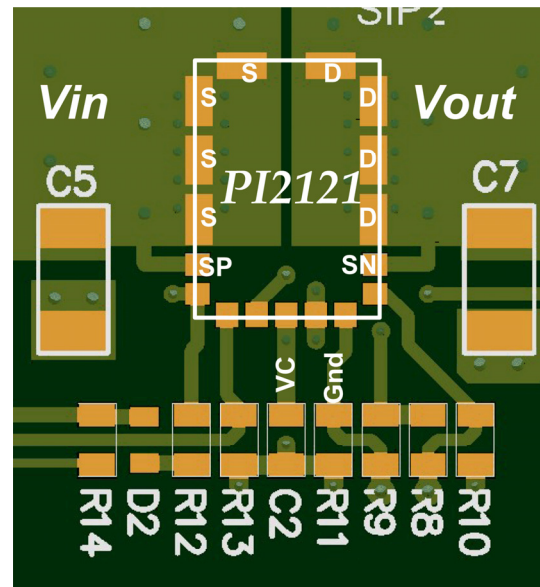

Figure 24: PI2121 layout recommendation
Use the following general guidelines when designing printed circuit boards. An example of the typical land pattern for the PI2121 is shown in Figure 24:
- Connect the SP pin to the S pins and connect the SN pin to D pins as shown in Figure 24.
- The VC bypass capacitor should be located as close as possible to the VC and GND pins. Place the PI2121 and bypass capacitor on the same layer of the board. The VC pin and C_{VC} (shown as C2 in Figure 24).
will produce a high voltage across the MOSFET. If it is not possible to connect the power source and S pins with a very short trace or common point, connect a capacitor (shown as C5 in figure 24), recommended value 1 μ F, close to the S pins and return (ground). Also for the same reason use C7 in figure 24 at the output.